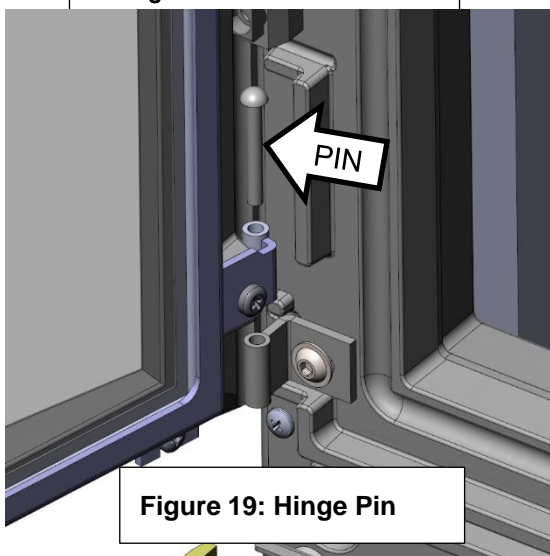

Figure 19: Hinge Pin
**Step 5:** Rotate the door, end over end, align the hinges, install one hinge pin into the bottom hinge (Figure 19). Install the second hinge pin to the top hinge.